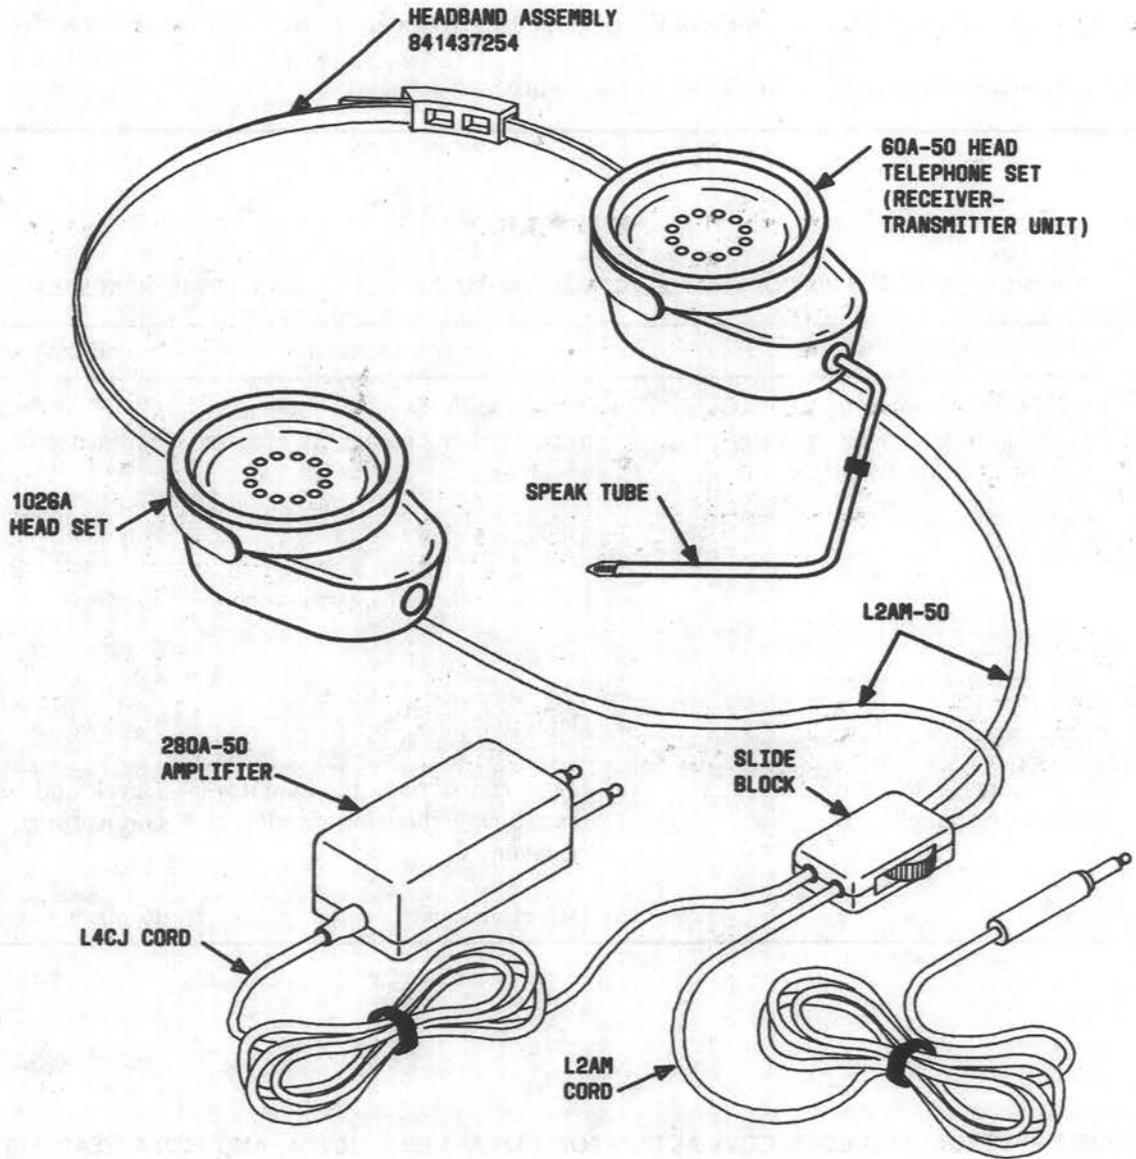

Fig. 6—1028A Headset
2.11 The 1028A-type headset (comcode 103651675) (Fig. 6) is designed for the visually impaired operator to simultaneously receive audible information from two sources and maintain vocal contact with customers.